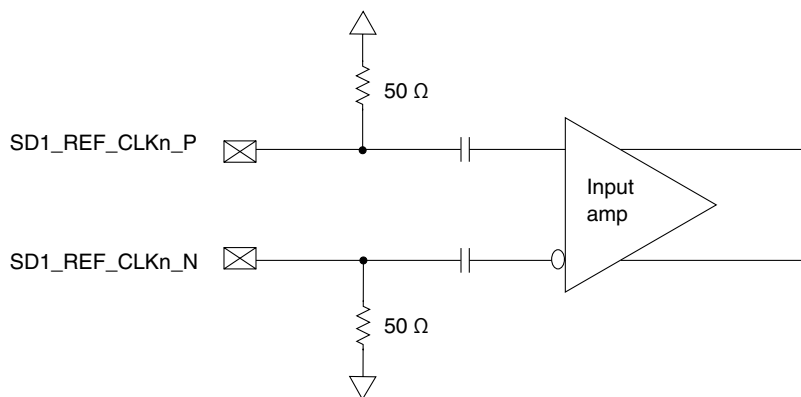

Figure 62. Receiver of SerDes reference clocks
- The SD1_REF_CLKn_P and SD1_REF_CLKn_N are internally AC-coupled differential inputs as shown in Figure 62. Each differential clock input (SD1_REF_CLKn_P or SD1_REF_CLKn_N) has on-chip 50-Ω termination to SGNDn followed by on-chip AC-coupling.